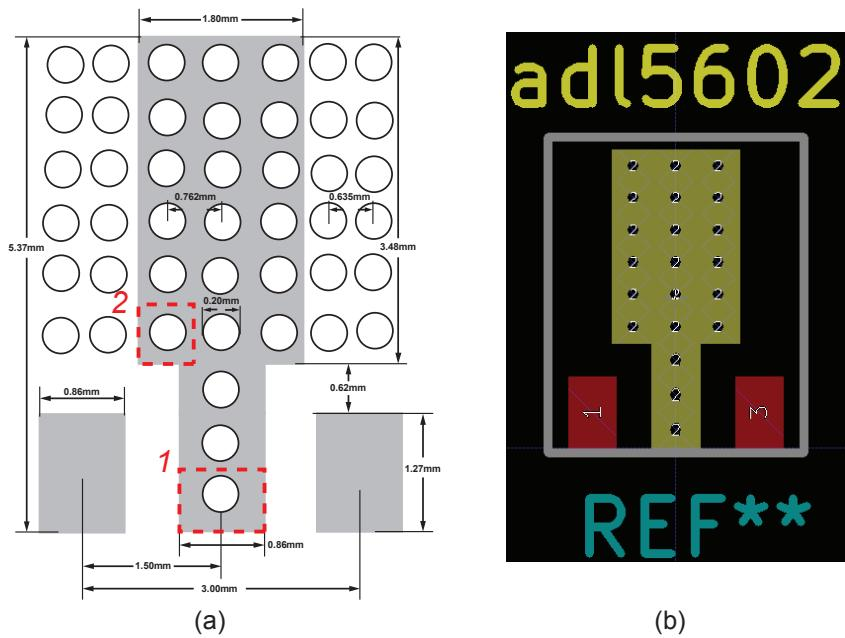

Figure 40: (a) Datasheet recommended land pattern for ADL5602 IC. Source: ADL5602 datasheet. (b) Footprint in KiCad.
The footprint of the ADL5602 IC will follow its recommended land pattern in its datasheet. It is copied in Fig. 40 for easy reference. The large exposed pad in the center and the many vias connects serve two purposes: 1) providing a low-impedance electrical path to the ground plane underneath; 2) providing a low thermal impedance path so that the heat generated in the IC could be well dissipated.
Pad 1 and 3 are straightforward to generate in KiCad. Creating of pad 2, the large ground pad, requires a little bit of guidance. Our strategy here is to draw each via as a separate pad with rectangular pad area and a circular drill. The complex land pattern consists of two unit cell types, both labeled in Fig. 40. Pad type 1 has a width of 0.86 mm and a height of $(0.62 + 1.27)/3 = 0.63$ mm. Pad type 2 has a width of 0.762 mm and a height of $(5.37 - 0.62 - 1.27)/6 = 0.58$ mm. The drill diameter for both pad types is 0.20 mm.
5. The final footprint is shown in Fig. 40-b. A courtyard outline has also been added.